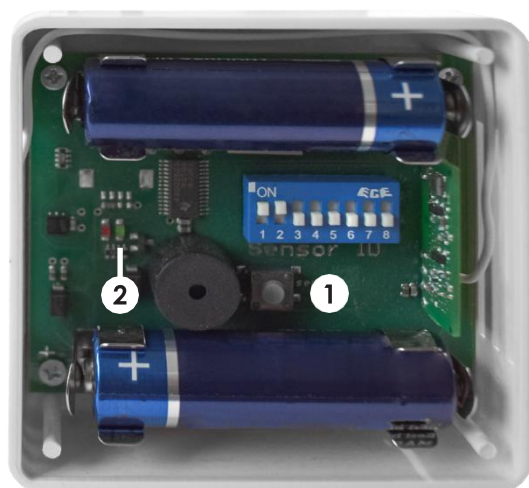

Fig. 10.3: Checking for proper operation
3. Check that the wireless humidity transmitter is working properly. To do this, press the button (Fig. 10.3/1).
- + If the LED (Fig. 10.3/2) lights up briefly, the wireless humidity transmitter is ready for use. If the wireless humidity transmitter emits a short beep at regular intervals during operation, replace the batteries.